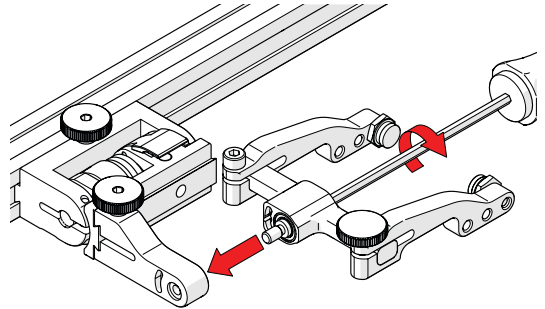

**Fig. 47** - Attach arms and move buttons
4. Place the pivot buttons on the inside of the probe holder arms (*Fig. 47*) using a 3/8 in wrench (*Fig. 2*). Slide the arms onto the yoke and tighten the probe holder arm adjustment knob and the arm clamp screw.